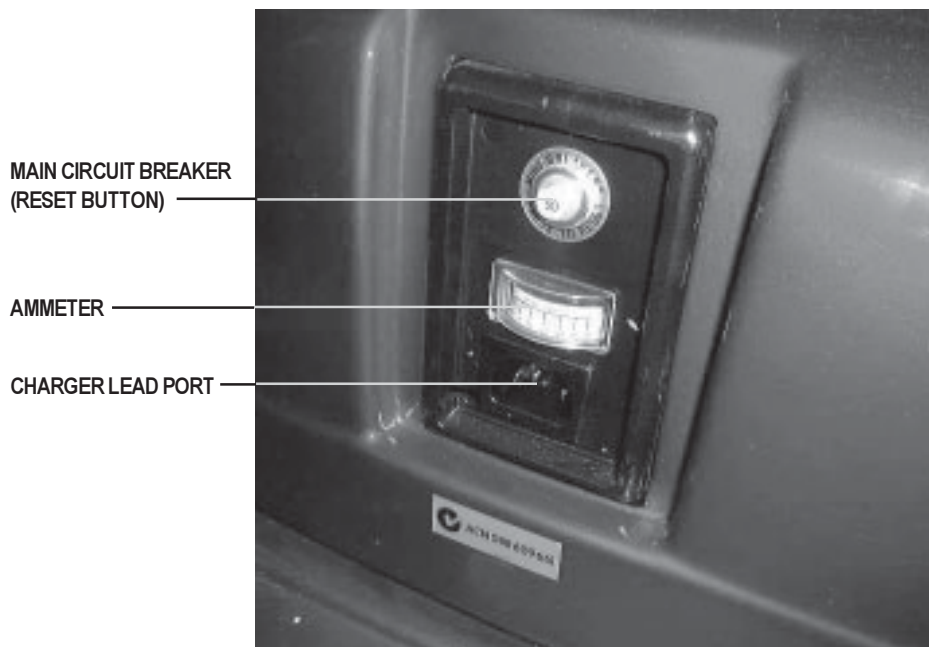
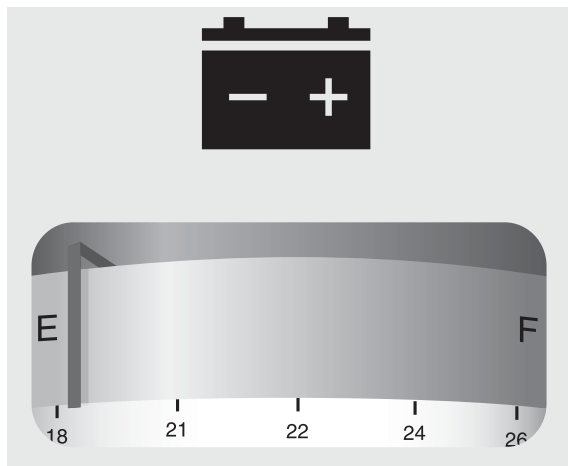

FIGURE 13. REAR SECTION
FIGURE 14. BATTERY CONDITION METER
- The main circuit breaker reset button is located at the foremost part of the rear section. See figure 13.
4. Plug the charger power lead into the charger lead port on the Victory XL-3. See figure 13.
NOTE: It is recommended that you charge your batteries for 8 to 14 hours. You can check this periodically by the battery condition meter on the control console assembly. See figure 14. However, you must first unplug the battery charger and then insert the key. The battery condition meter on the control console assembly indicates the approximate strength of your batteries. You can also check the charge by the ammeter which is visible on the rear section. The battery charger must be plugged into a wall outlet to obtain a reading. When the amperage reading is at or near zero (0) amps, the battery charging is complete. See figures 13 and 15.